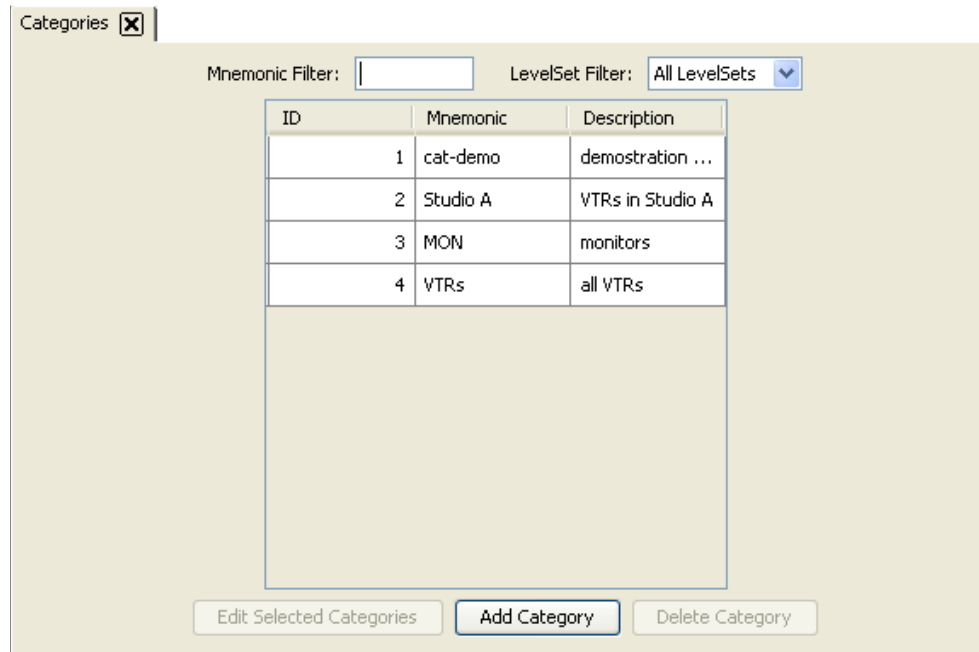

Figure 10-28. Categories Page
- 2 From the Navigation area, select the 'Configuration' pane and then 'Categories'. The 'Categories' page appears, as shown in Figure 10-28.